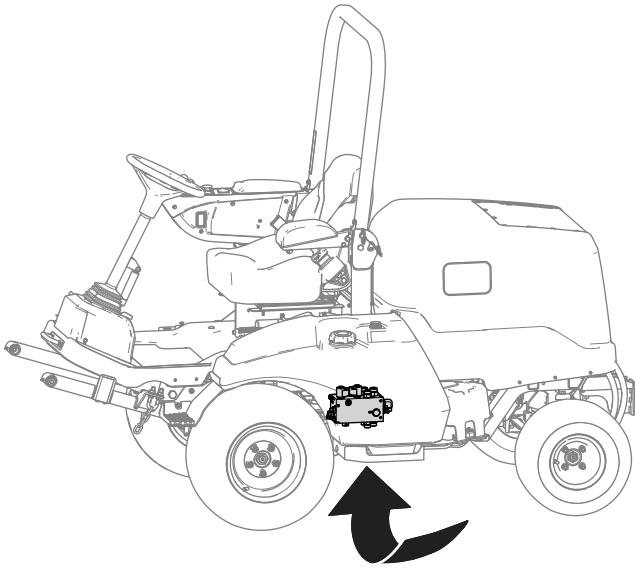

Figure 9
A. Place a drain pan under the hydraulic manifold (shown in Figure 9).